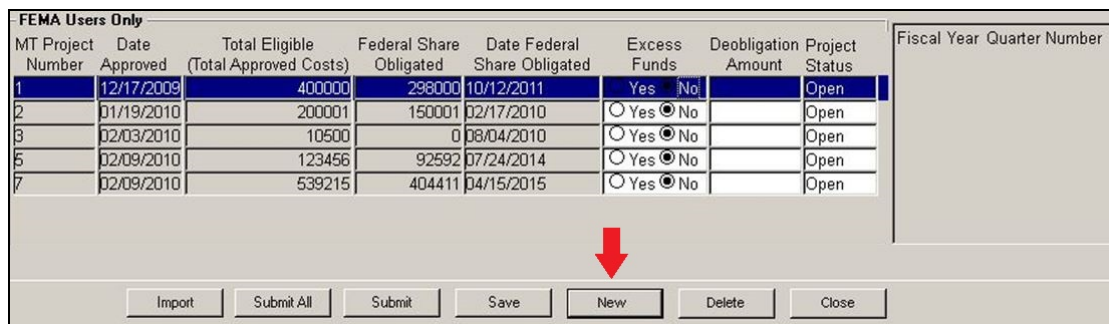

Figure 11-32: Mitigation > Admin > Quarterly Report > New
2. The Quarterly Report screen is displayed. To create a new Quarterly Report for a project, highlight the project and click the NEW button (Figure 11-32).